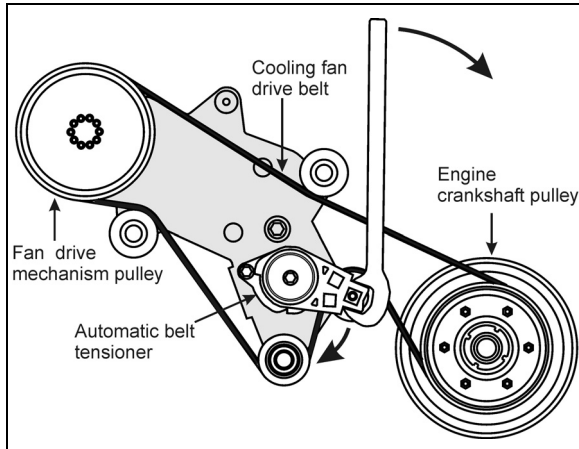

FIGURE 28: DRIVE BELT ROUTING (DDC S60 ENGINE)
1. Wrap the new drive belt around the fan drive mechanism pulley, the idlers and the automatic tensioner idler as shown on figure 28 & 29.
2. Using the special tool included with your vehicle (see inside the Warning Reflectors box located in the first curb-side baggage bay), rotate the automatic tensioner in clockwise direction to relieve tension on the belt and hold the tensioner in that position (Fig. 28 & 29).